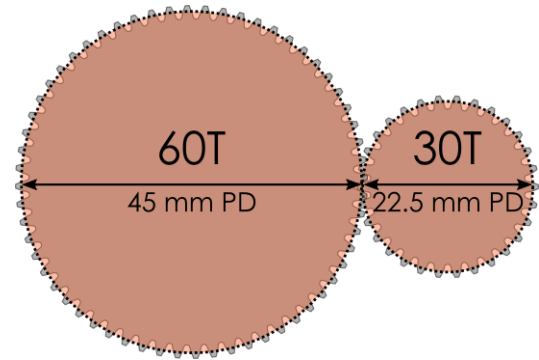

Figure 2: Simplified Gear Spacing Model with Tangent Pitch Diameters
When creating simplified models for gears, first create a circle with the **pitch diameter** for each gear used in the system then constrain the circles tangent (just barely touching) to each other (Figure 2). **Pitch Diameter (PD)** can be calculated using the formulas in Table 2